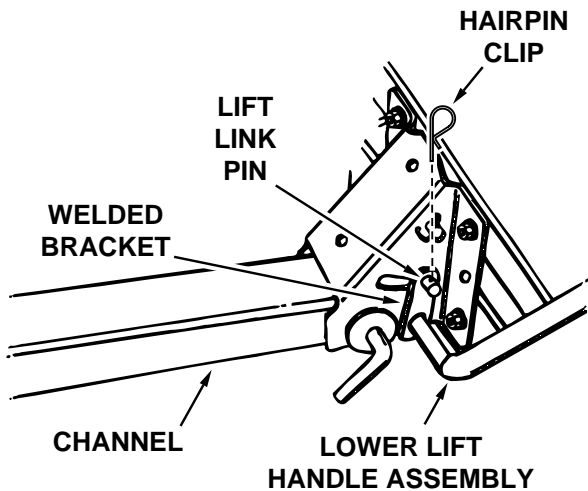

Figure 4
- Remove the hairpin clip from the lift link pin which is assembled to the pivot support bracket. Insert the end of the lower lift handle assembly through the notch in the pivot support bracket and through the holes in the channel. Align the lift link pin with the hole in the welded bracket on the lower lift handle assembly. Insert the lift link pin through the hole in the bracket and secure it with the hairpin clip. See figure 4.